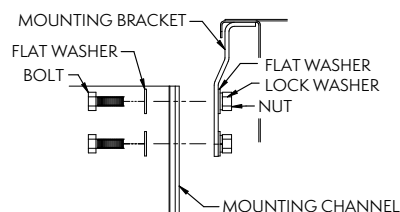

Figure 20 – Mounting Channel Installation
2. Use 3/8" (10mm) flat washers, lock washers and nuts to secure the mounting channel to the bracket, as shown in **Figure 20**.